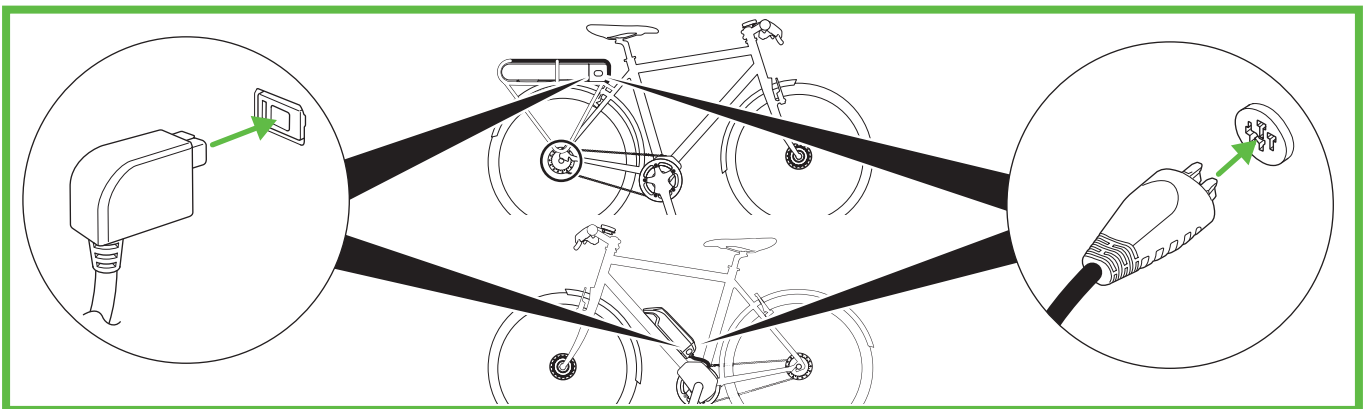

Fig. 2: Connecting the system plug, e.g. Bosch, Shimano or others, depending on the equipment
- ▶ Connect the respective cable to the LEV rechargeable battery (Abb. 2).